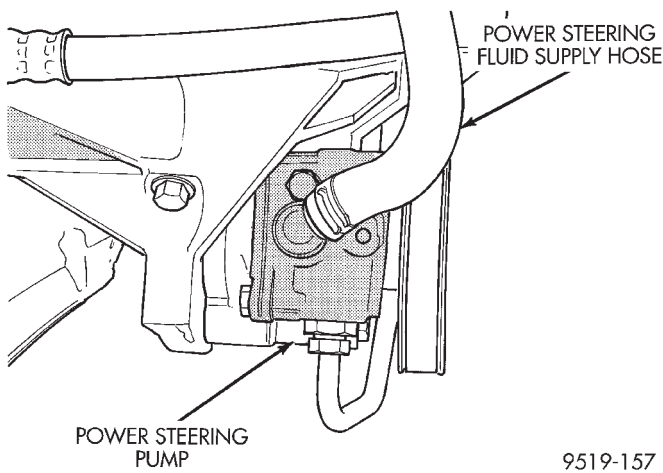

Fig. 9 Fluid Supply Hose At Power Steering Pump
(3) Raise vehicle.
(4) Remove hose clamp, attaching power steering fluid supply hose to the power steering pump. Then remove power steering fluid supply hose from power steering pump fitting (Fig. 9).
Install hose clamp on power steering fluid supply hose at power steering pump fitting (Fig. 9). **Be sure hose clamp is installed on power steering fluid supply hose past upset bead on power steering pump fitting.**